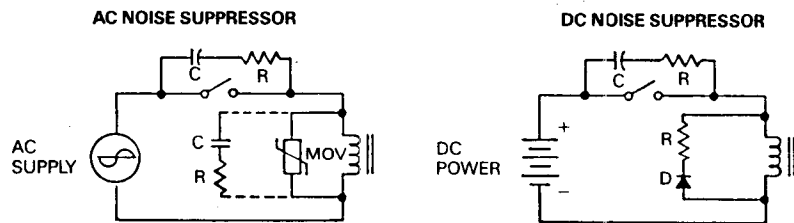

Figure 2-2. Noise Suppression
2.5 NOISE SUPPRESSION (Refer to Figure 2-2)